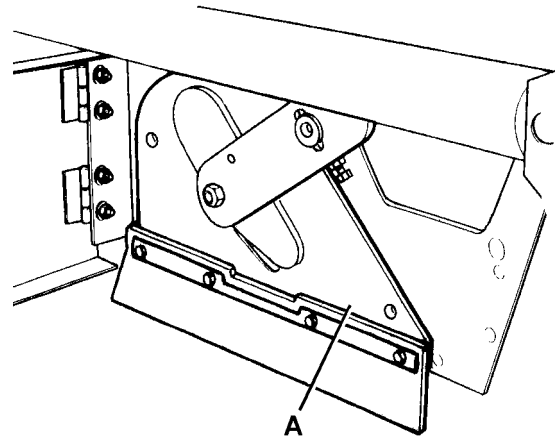
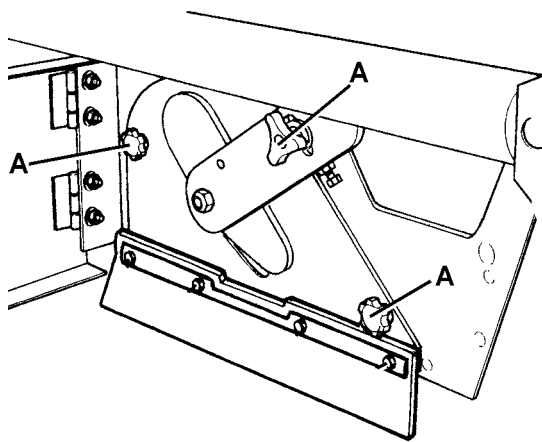

Figure 6
Figure 5
1. Drive the machine on a level ground and engage the parking brake with the pedal (76) and the lever (69).
2. Turn the ignition key (68) to "0" and remove it.
3. Open the hood (22) and disconnect the batteries with the connector (25).
4. Release the fastener (8) and open the right door (7).
5. Unscrew and remove the knobs (A, Fig. 5).
6. Remove the main broom compartment cover (A, Fig. 6).
11. Install the main broom compartment cover (A, Fig. 6) and screw the knobs (A, Fig. 5).
12. Close the right door (7) and engage the fastener (8).